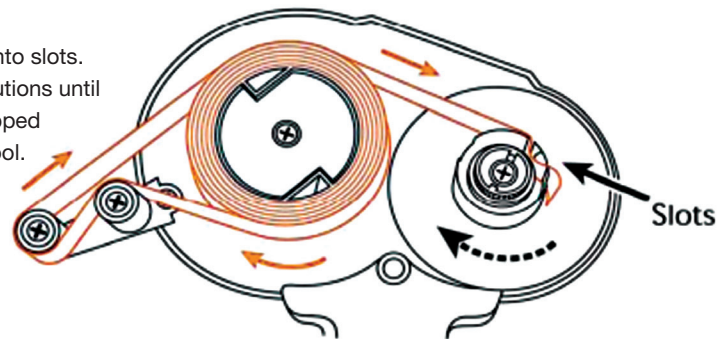

Figure 2
- Thread the leader liner through the slots on the smaller dispenser wheel to secure. Turn smaller wheel clockwise for several revolutions. Close cover. **See Figure 2**